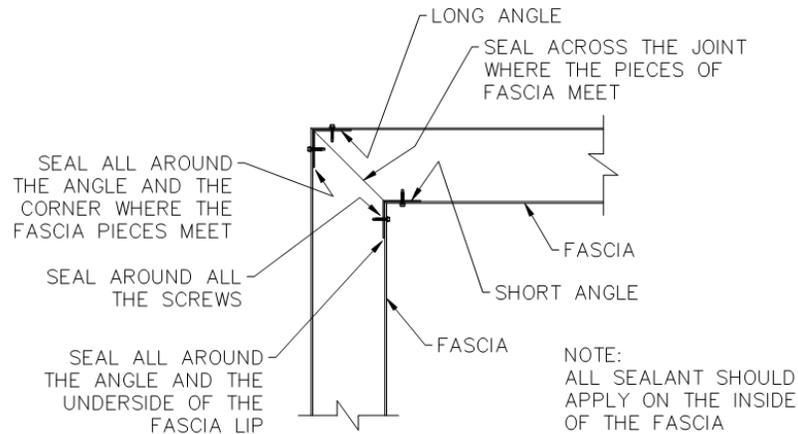

FIGURE 10
- J. Once all the fascia pieces are together, seal all around the corner angles, the screws and the edges where the two pieces of fascia touch (Figure 10) at each corner location. Also, seal all around the splices and the screws (Figure 6).